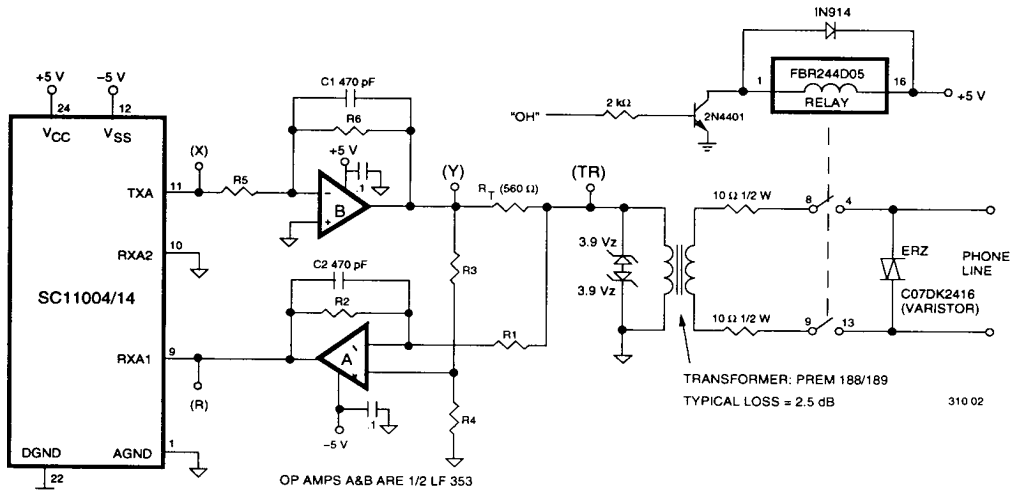

Figure 2. Using an External Hybrid with the SC11004/14
With a higher loss transformer, some degradation in performance at lower signal levels will occur. Specifically, the bit error rate, when operating at receive signal levels below -40 dBm in the presence of noise, will be higher. The energy detect on/off levels measured at the line will also be different from those specified at the chip. With a 3 dB loss transformer for example, the energy detect on/off levels measured at the line will be in the range of -40/-45 dB rather than -43/-48 dB as specified at the chip. An external hybrid circuit, shown in Figure 2, can be used to overcome these losses and achieve maximum performance.
The external hybrid circuit uses two operational amplifiers, one in the transmit path and the other in the receive path. The SC110104/14 internal transmit stage provides a gain of 6 dB over the transmit signal level desired at the line. For example, if the TLC1, TLC0 level control codes are set to 0 and 1 respectively so as to obtain -9 dBm at the line, the chip actually puts out -3 dBm at the TXOUT pin (pin 11). Under ideal conditions, with no loss in the transformer and perfect line matching, the signal level at the line will then be the desired -9 dBm. In practice however there is impedance mismatch and a loss in the coupling transformer. Therefore it may be desired to provide a gain in the transmit and receive paths to overcome the loss. The receive gain G_R and transmit gain G_T are set by the ratios of resistors R2, R1 and R6, R5 respectively (Figure 2).
It should be noted that the transmit amplifier is only needed to overcome the loss in line coupling. It can be eliminated since the transmit signal level specification is typically stated as a maximum. Amplifier B, resistors R5 and R6 and capacitor C1 can be eliminated and point X connected to point Y in the circuit of Figure 2 to achieve a more cost effective external hybrid arrangement.
- Instructions to the modem IC (See Note 1 and 2). Data on the DI/O pin shifted into the modem when \overline{WR} is low, on rising edges of the SCK clock. Data is transferred into a latch when \overline{WR} goes high. (See Figure 2 for write cycle waveforms). Up to 7 data bits (D0–D6) can be sent to the device. These bits control the operating modes of the modem as shown below: